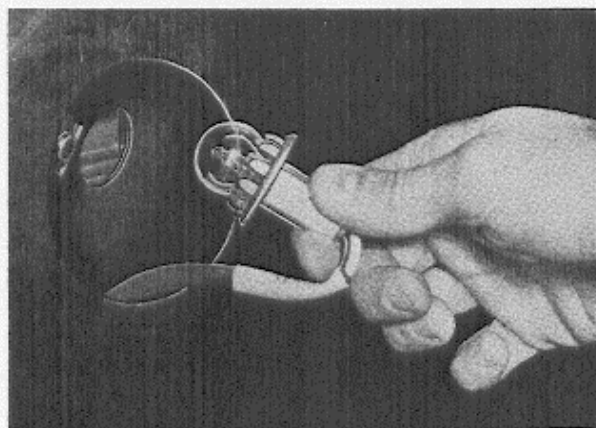

Fig. 22.
1. The bulb is accessible for replacement from the luggage compartment. The bulb-holder is removed by prising it to one side, see fig. 22.